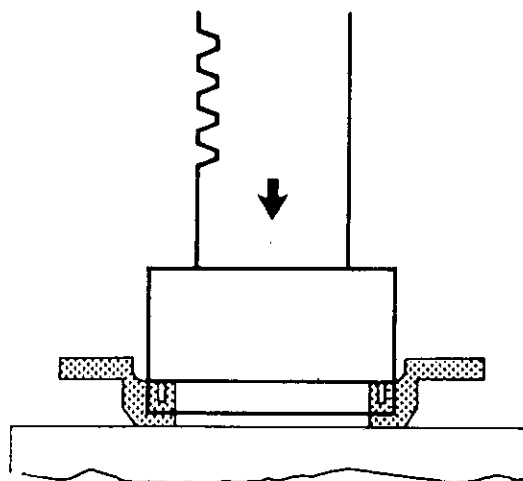

Figure 4.23
18. Press the facet drive assembly seal (41) into bearing cover (42), as shown in Figure 4.23. Lubricate the inside diameter with Lithium base grease.